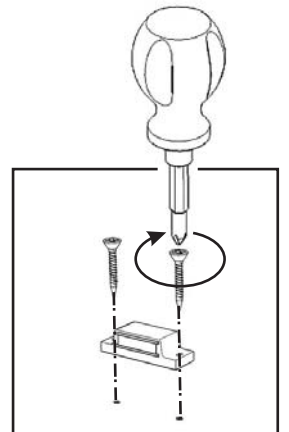

Figure 2
Attach Magnets to Top (A) with Wood Screws for Magnet. (See Figure 2)